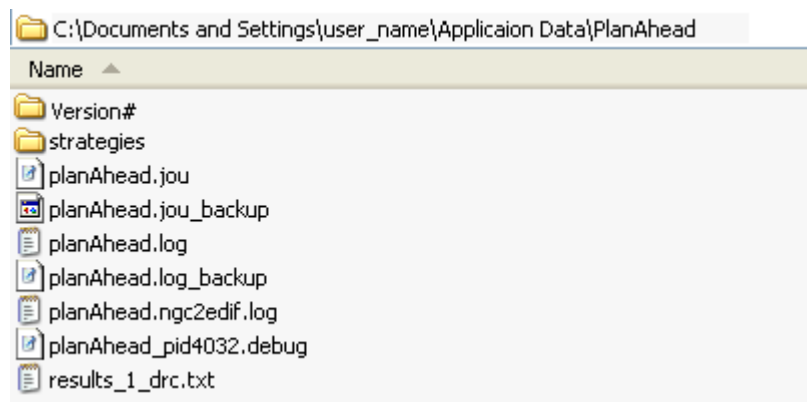

**Figure A-1: PlanAhead Directories for Reporting Output**
Figure A-1 shows a the directory structure used for reporting output on a Windows OS. When the file location is not user-specified, the PlanAhead tool places report output files, based on the OS:
- The location shown in Figure A-1 or C:\Documents and Settings\user\_name\Application Data\Xilinx\PlanAhead\project\_name.